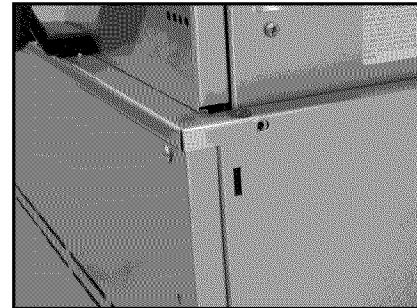

Fig. 14
3. Position tabs on side bracket to fit into slots on the cart (be aware of pinch points)(Fig. 12-13). When complete, the leading ledge should sit flush on the top of the cart (no gap)(Fig. 14).